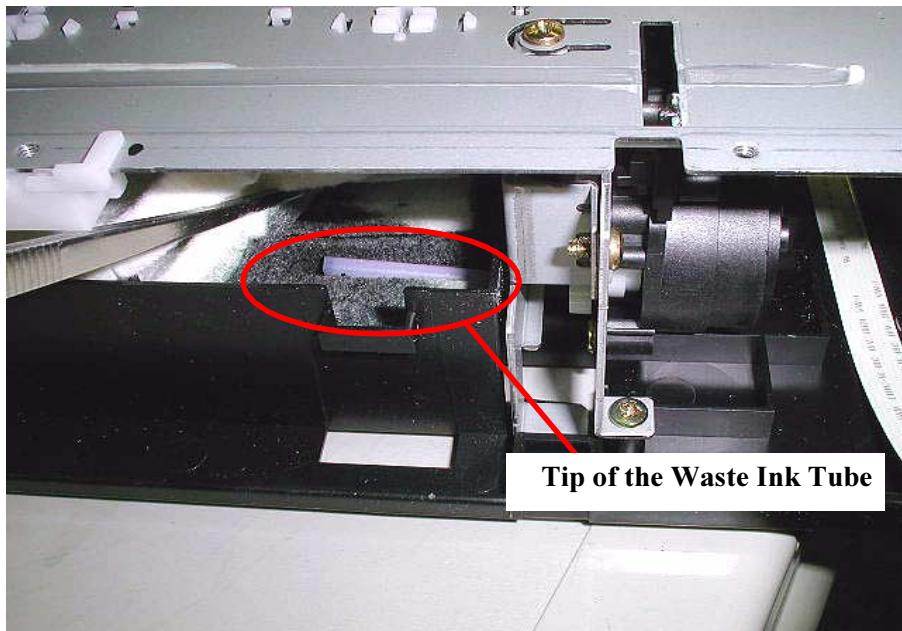

Figure 4-15. Waste Ink Tube setting position
■ When reassembling the Waste drain ink pad unit, be sure to set the tip of the waste ink tube in the correct position of the Waste drain ink pad. Otherwise it will cause ink leakage. Refer to Figure4-15.